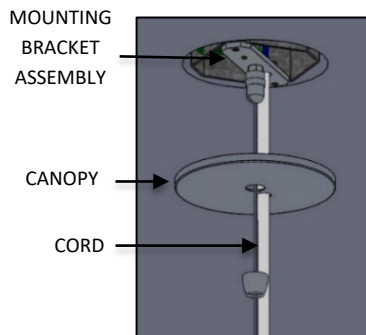
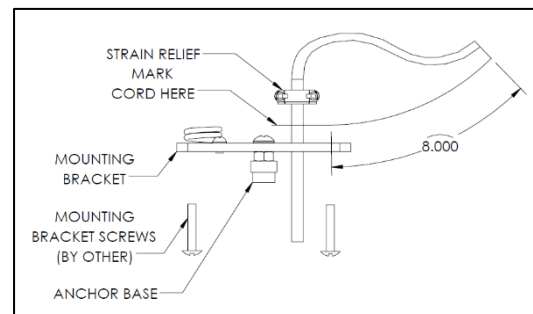

FIG. 24 -CORD INSTALLATION
FIG. 25 – CORD MARKING
7. Dis-assemble the CANOPY by loosening the ceiling Coupler, and Insert CORD through CANOPY and MOUNTING BRACKET as shown below in FIG. 24. Mark cord with marker above DRIVER MOUNTING BRACKET as shown below in FIG. 25. Trim off excess CORD leaving minimum of 8.00" past the top of the DRIVER MOUNTING BRACKET all thread.